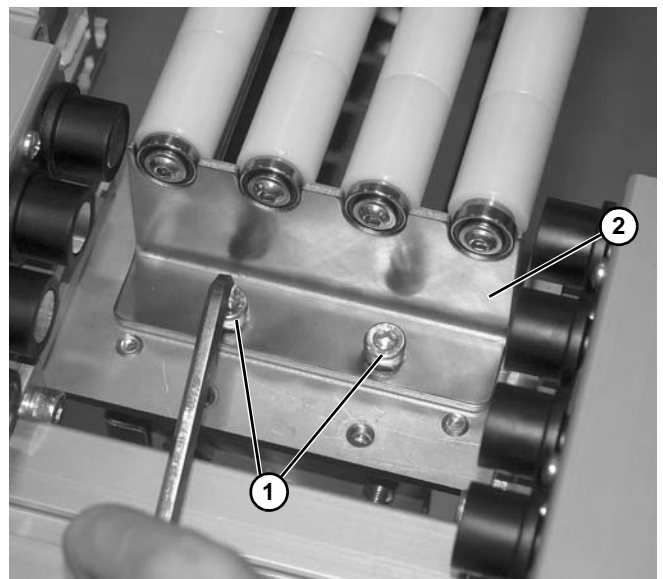

Figure 168
9. Remove two screws (Figure 168, item 1) securing roller plate (Figure 168, item 2) on assembly.